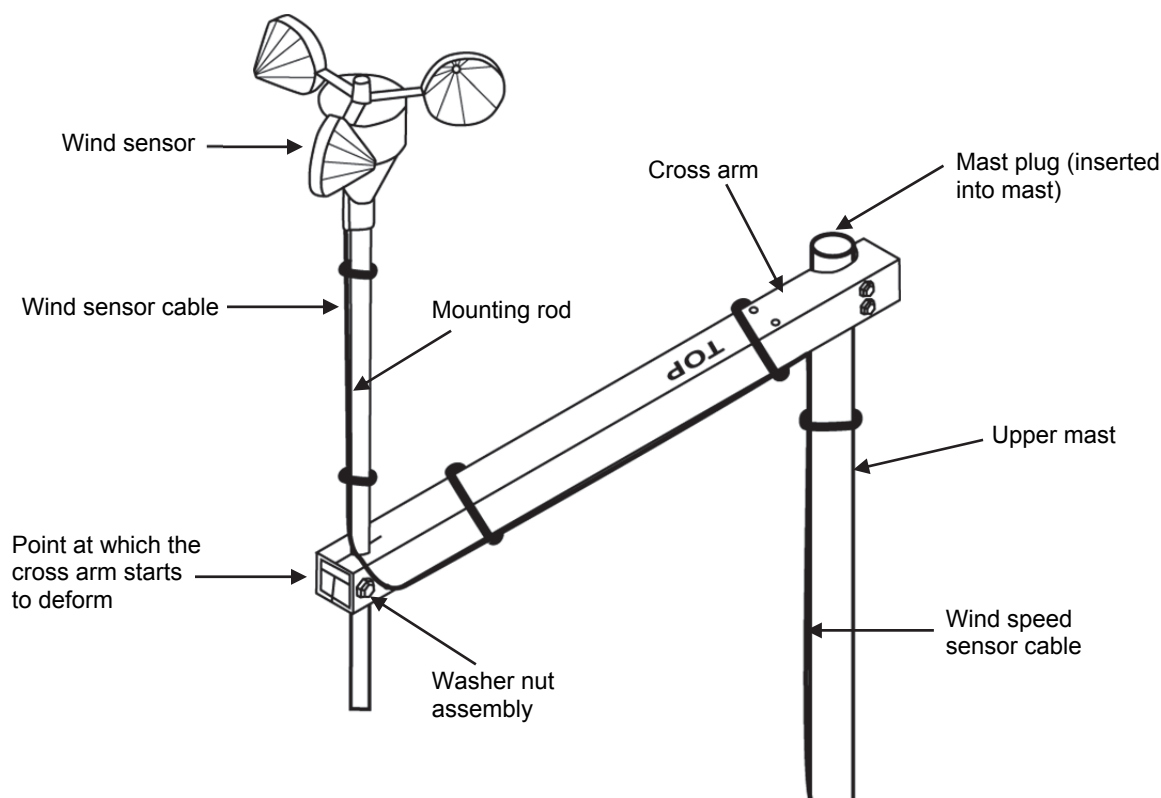

Figure 26: Wind sensor attachment
1. Insert the end of the black mounting rod through the top of the cross arm (see Figure 26).